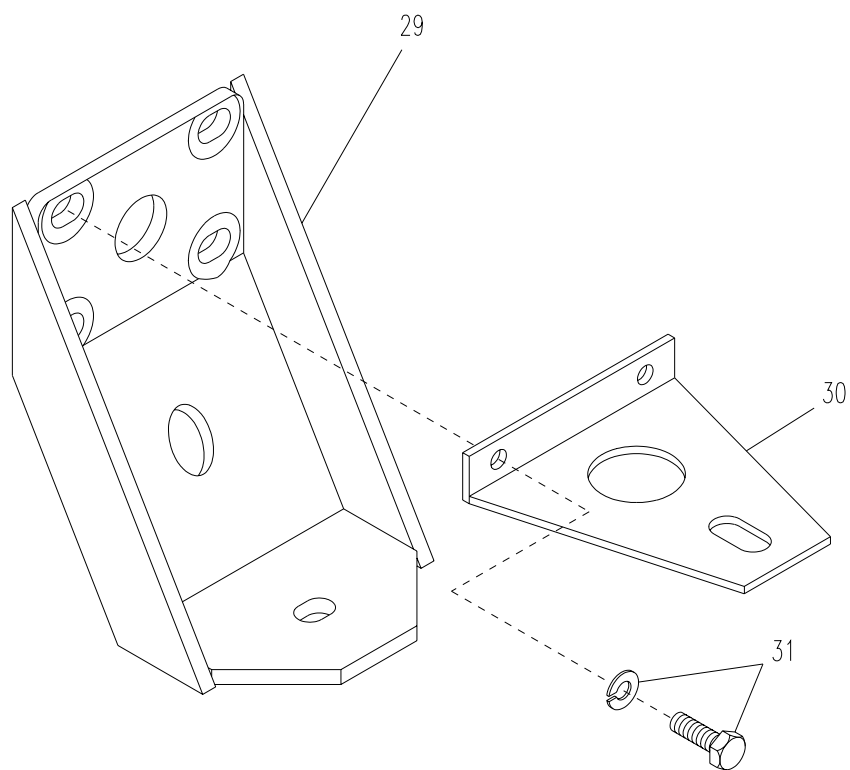

Figure 5-25. Diesel Engine (Sheet 10 of 11)
- v. Remove five bolts and lock washers (21) (Figure 5-25, Sheet 8) and flywheel adapter (22) from old engine.